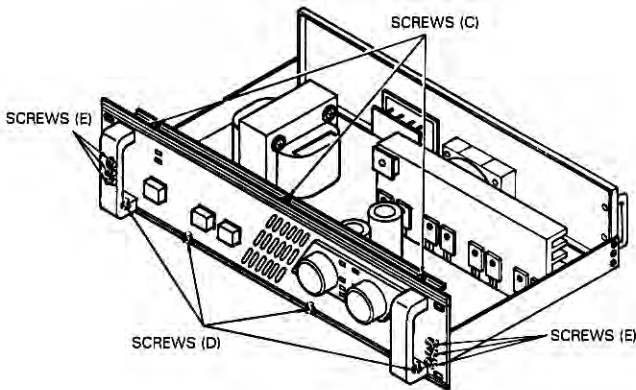

Fig. 3
- (a) Remove 2 knobs(F). (Fig.3)
- (a) Remove 2 screws (G). (Fig.3)